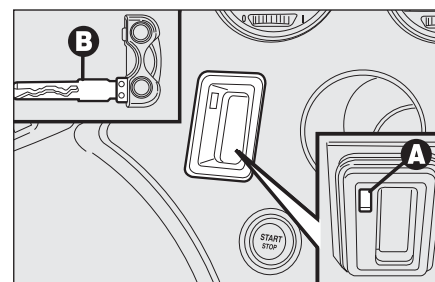

fig. 1
- ☐ fit the metal insert **B-fig. 1** of the electronic key into the slot **A**;
IMPORTANT Only fit the metal insert **B** of the electronic key into slot **A-fig.1**.